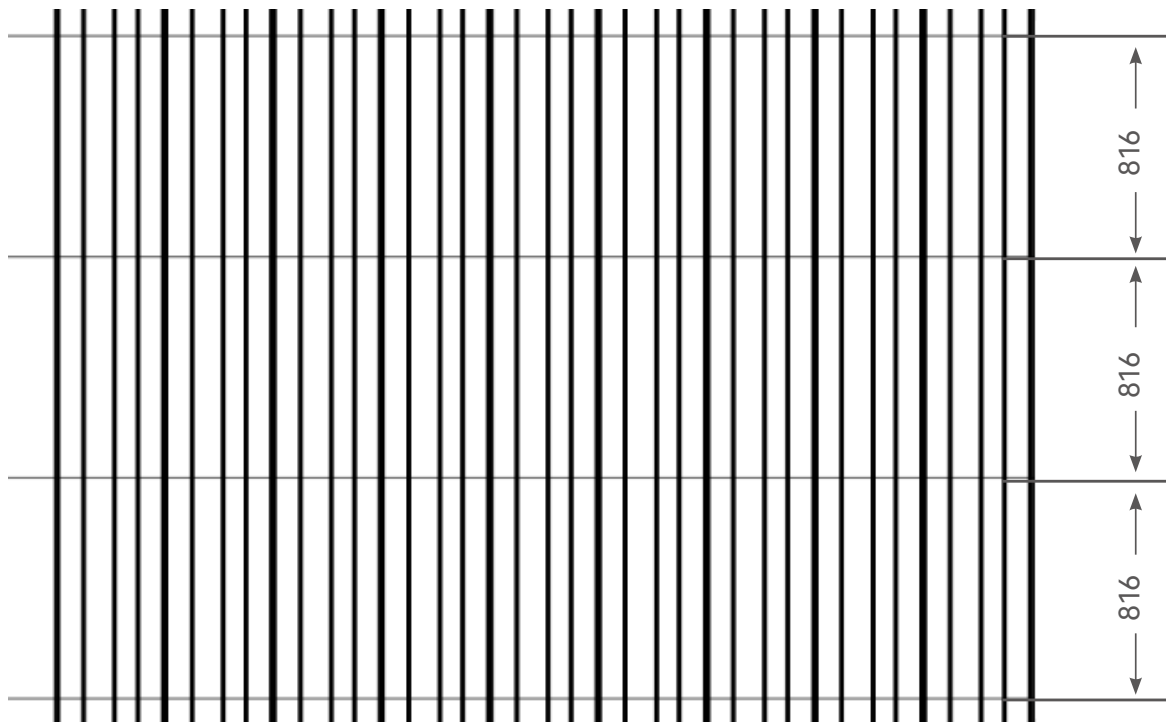

FIGURE 24
① First determine the installation position of the clamps, then carry out the snapline as the installation axis, the centre line of each row of clamps should be $816 \pm 2\text{mm}$ apart, note that the snapline is at an angle of 90 degrees to the rib of the colour steel tile (Figure 24)